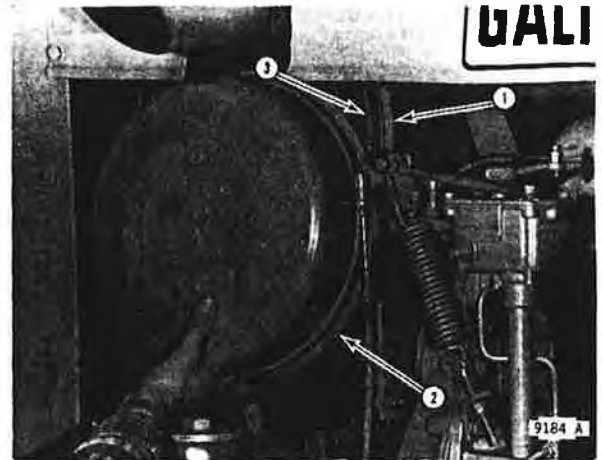

Figure 112
Loosen clamp (1, Figure 112) and remove dust cup (2) from air cleaner housing (3).